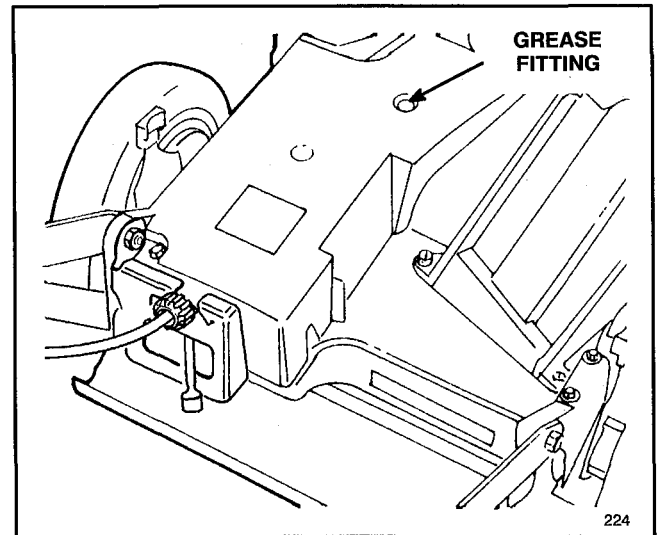

Figure 30
1. Install grease gun onto fitting thru belt cover opening (Fig. 30). Gently apply 1–2 pumps of grease.